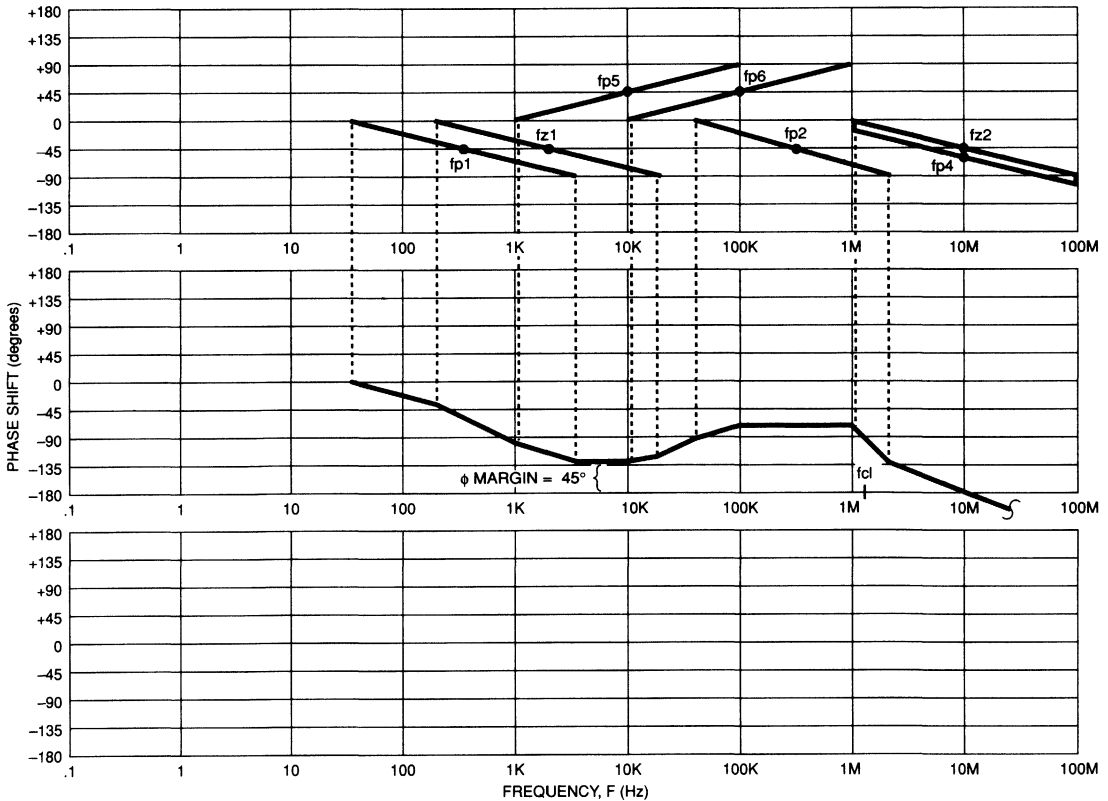

FIGURE 6. OPEN LOOP PHASE CHECK FOR STABILITY (PA85 PIEZO TRANSDUCER DRIVE)
STEP 6: Plot open loop phase using information from magnitude plot: Figure 6 is the open loop phase plot for our PA85 drive circuit.
A review of Figure 6 shows graphical addition of the contributions from all poles and zeros to yield a net open loop phase plot. The phase margin from DC to fcl is never less than 45 degrees which implies good stability for this circuit.